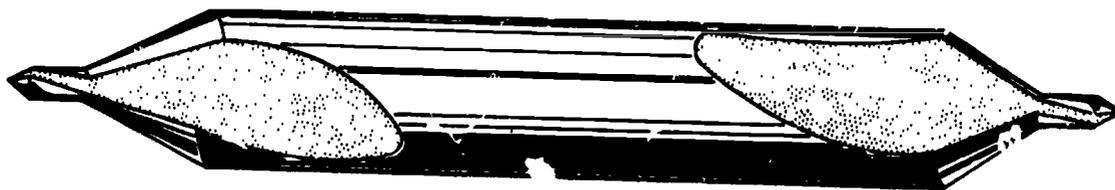

Figure 96. Combination drill and countersink (center drill).
**18-32.** After you have correctly positioned the work under the spindle, center drill it. Do this with a combination drill and countersink, which is often called a center drill, as shown in figure 96. The tapered portion of the hole guides the drill and keeps it centered. If the final drill is very large, you may find it necessary to use one or more *lead* drills. A lead drill, sometimes called a pilot drill, is any drill that is slightly larger than the thickness of the web of the next drill to be used. In addition to keeping the final drill centered, a lead drill also reduces the power that you need to drill the hole. You should use cutting oil and remove the drill from the hole frequently, especially when you are drilling a small diameter hole or a very deep hole. This "backing out" of the drill clears the chips from the hole and prevents drill breakage. It also allows the cutting oil to reach the cutting edge of the drill, where it does the most good.